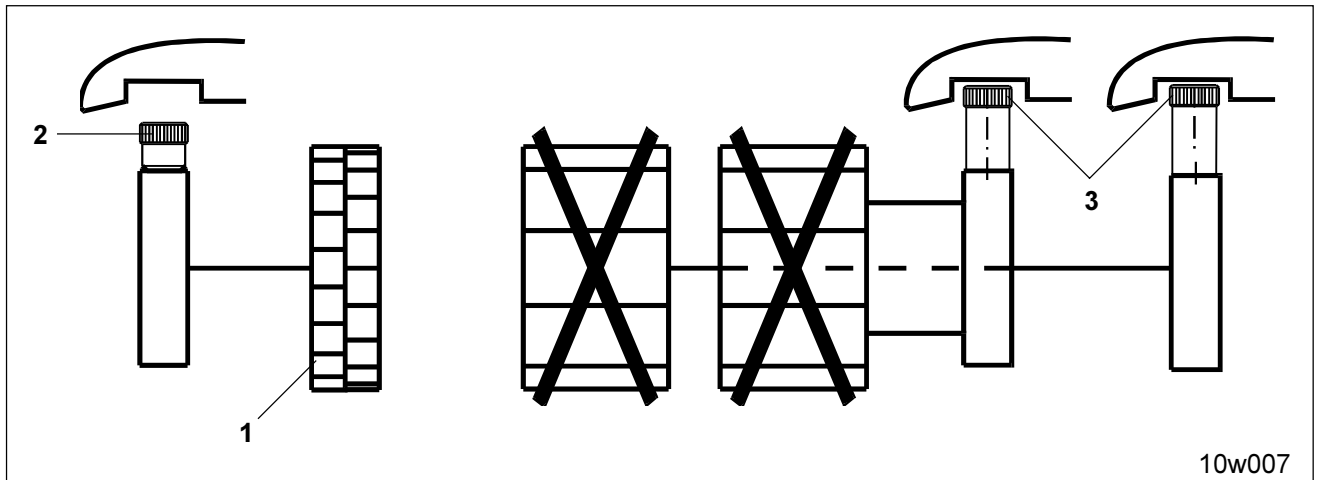

Fig. 11.6
When sowing with the fine seed metering wheel (Fig. 11.6/1)
- Drive in thumb bolt (Fig. 11.6/2) of the fine seed metering wheel
- Drive out thumb bolts (Fig. 11.6/3) of both main metering wheels.